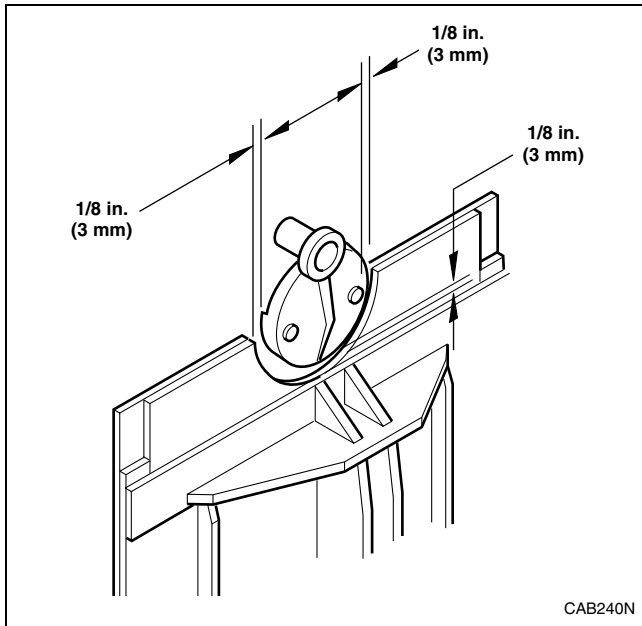

Figure 6
7. Check that the collar block is positioned in the head cutout per *Figure 6*. If collar block is not properly aligned, check press level. If press is level, shim buck, adjust collar block or discharge tube as necessary.
2. Simultaneously press both buck in buttons to send buck into cabinet and close heads. Check alignment of collar block in head cutout. Check snorkel alignment. Refer to *Figure 6*. Make adjustments if required.